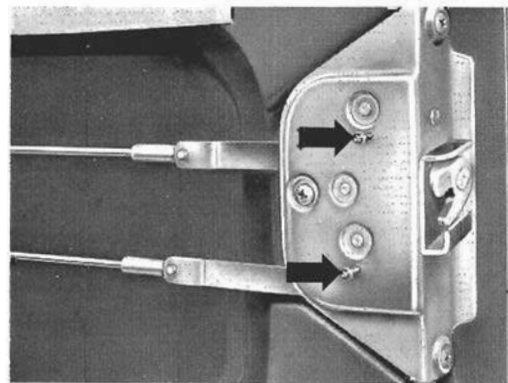

Fig. 5-52. Screws (arrows) being used to secure the operating levers inside the center lock.
1. Secure the center lock mechanism with two 4-mm screws as shown in Fig. 5-52 or use suitable punches or nails for the same purpose. Screws, however, can be threaded into the operating levers.